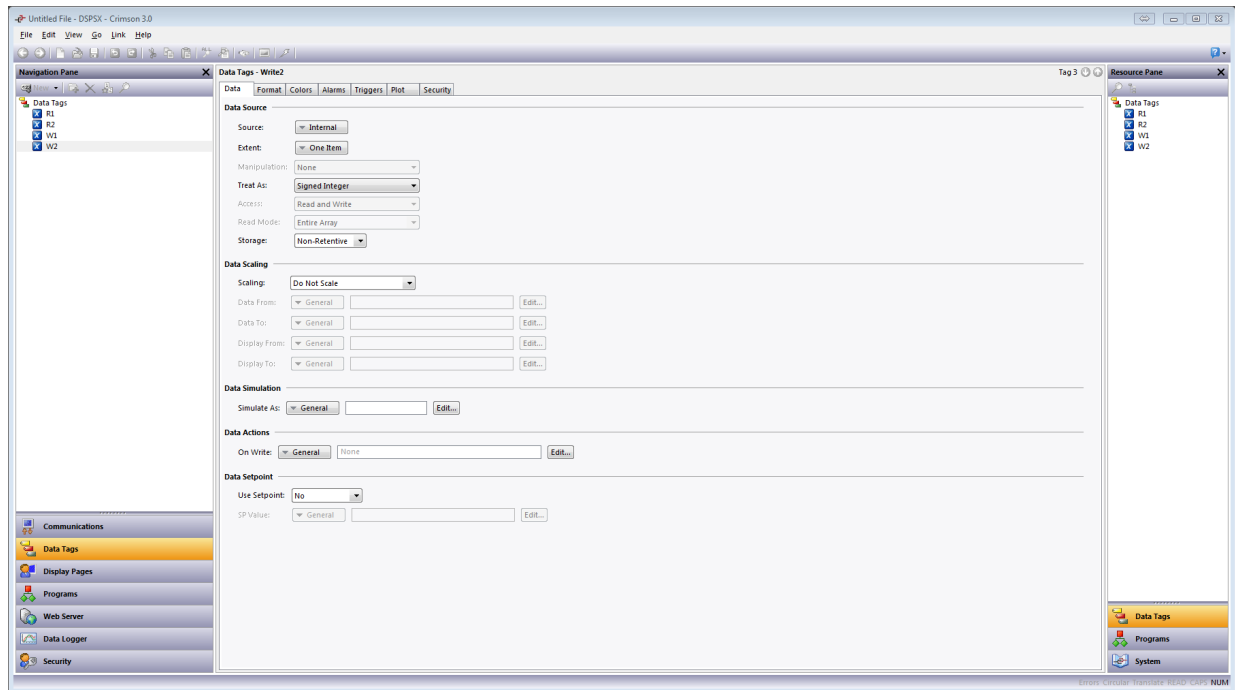

Figure 11.
- Referring to Figure 11, rename the tags to something application-specific; *R1*, *R2*, *W1*, and *W2* in this example.